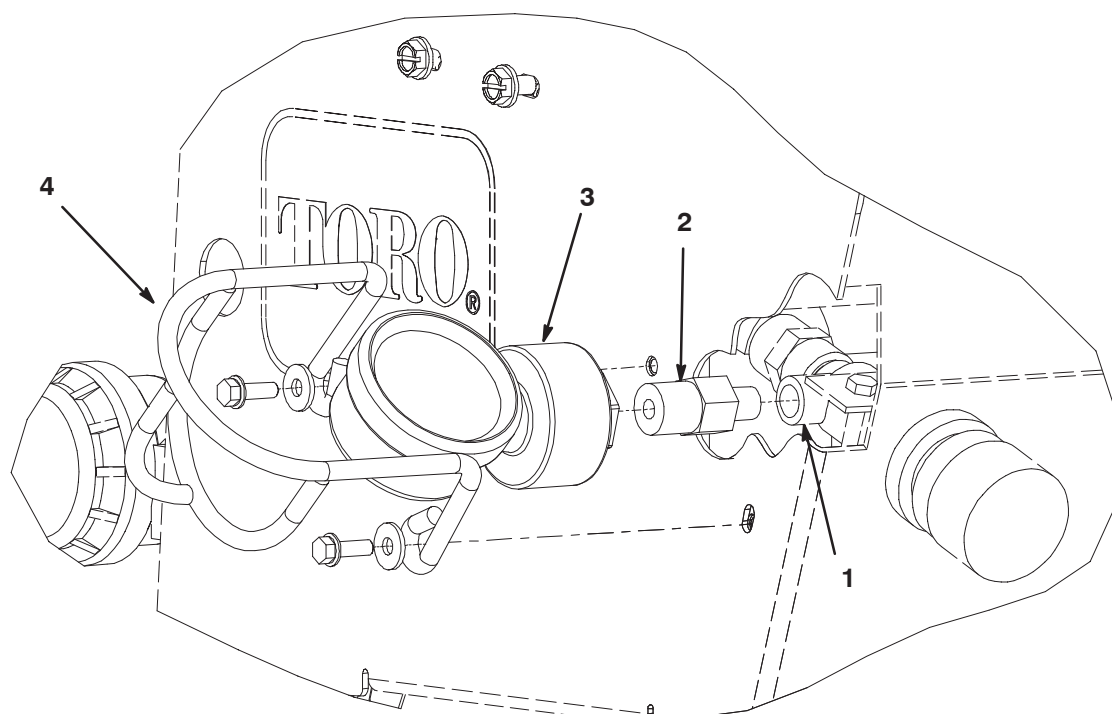

Figure 2
2. Apply a thread sealant to the threads on each end of the straight fitting (Fig. 2).
3. Thread the straight fitting into the pressure regulator (Fig. 2). Torque the fitting to 100-110 in.-lb.
4. Thread the pressure gauge onto the straight fitting (Fig. 2). Position the gauge as shown in figure 2.
5. Remove the lower screw securing the valve bracket to the tank support (Fig. 2).
6. Using this hole and the open hole above the regulator access hole, install the gauge guard with (2) washers and screws (Fig. 2).